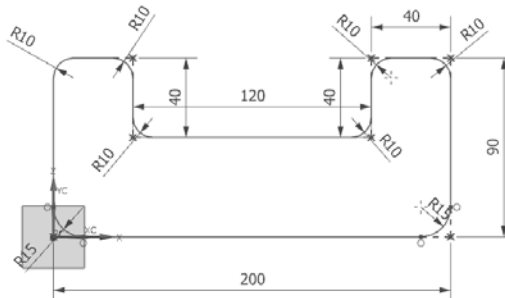

Figure 2-58 Sketch after creating fillets
7. Right-click, and then select the **OK** option from the shortcut menu to exit the **Fillet** tool. The fillets are created, refer to Figure 2-58.